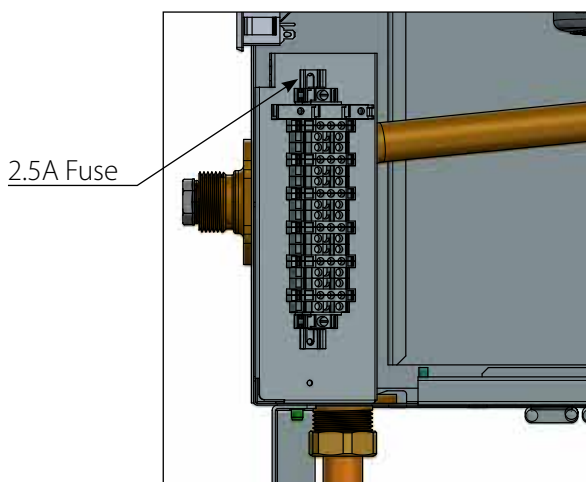

Fig. 32 - Terminal Strip Location
- A 2.5A fuse is also located on the terminal strip, to protect the output. Refer to *Fig. 32*.
1. Connect a dedicated 120 VAC/15A service to the line voltage terminals located internally in the lower left corner, as shown in Fig. 32 below.
2. Connect the CH1 & CH2 circulator wiring to the respective line voltage terminals located internally in the lower left corner, as shown in Fig. 32 on the left. This circulator is typically used to supply heat to the central/space heating loop.
3. Connect the DHW circulator wiring to the line voltage terminals located internally in the lower left corner, as shown in Fig. 32 on the left. This circulator is typically used to supply heat to an indirect hot water heater.
4. The boiler pump is factory wired to the line voltage terminal as shown in Fig. 32 on the left.